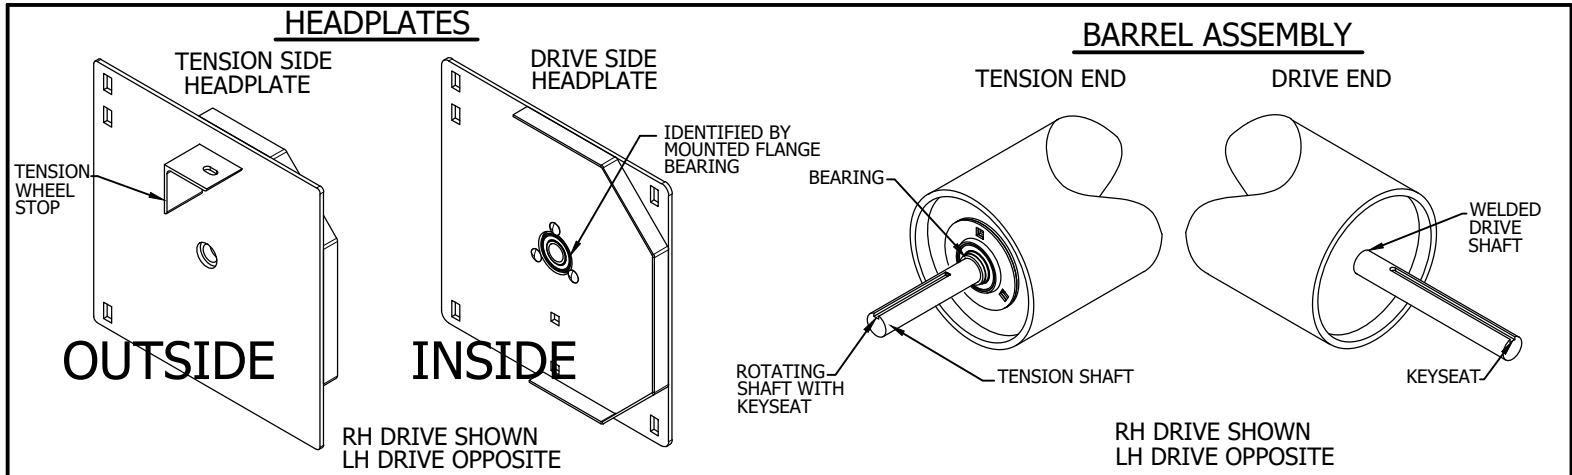

FIGURE 10
a. Proceed at ground level and identify components as shown in Figures 10 and 11.